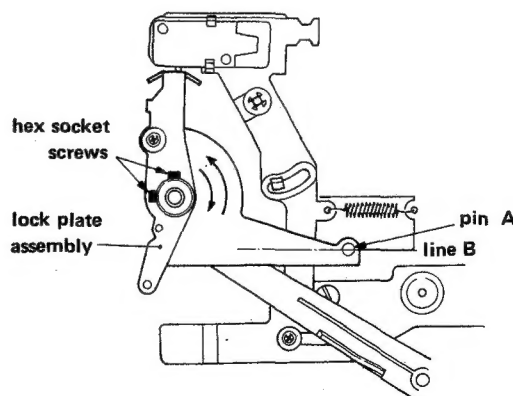

Fig. 3-4
**NOTE:** When replacing the tonearm, follow the adjustment procedures below while referring to Fig. 3-4: